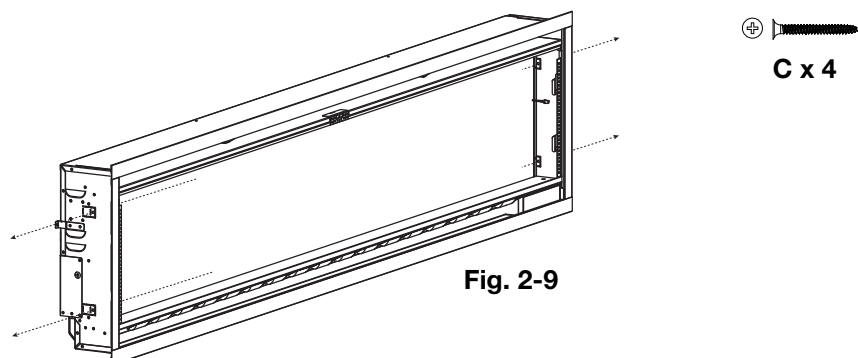

Fig. 2-9
9. Use 4 screws (supplied) to secure the appliance into the wall (**Fig. 2-9**). Do not overtighten screws.